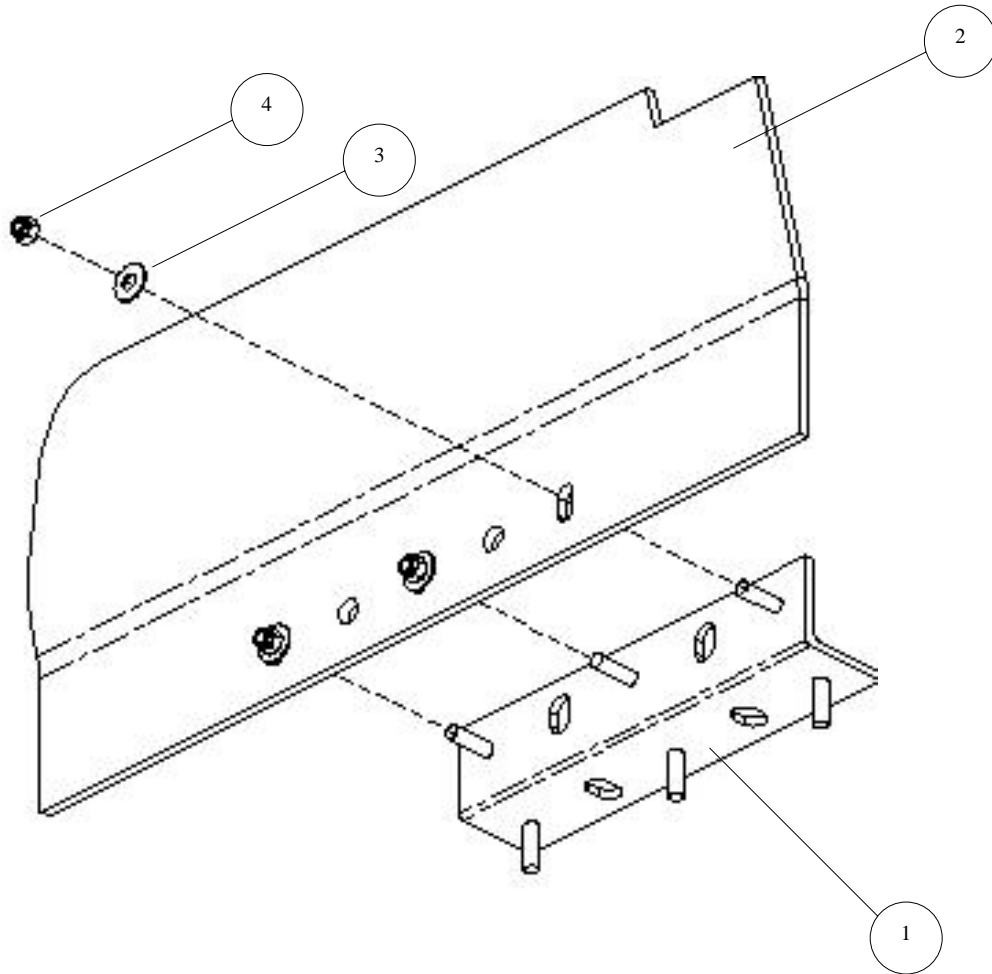

Figure 3-26. Lower Wheel Well Panel Pre-Assembly.
1. Pre-assemble lower wheel well panel as follows (see Figure 3-26):
- a. Install one 90-degree joiner bracket (1) onto lower wheel well panel (2) and secure with three flat washers (3) and locknuts (4). Do not tighten locknuts.